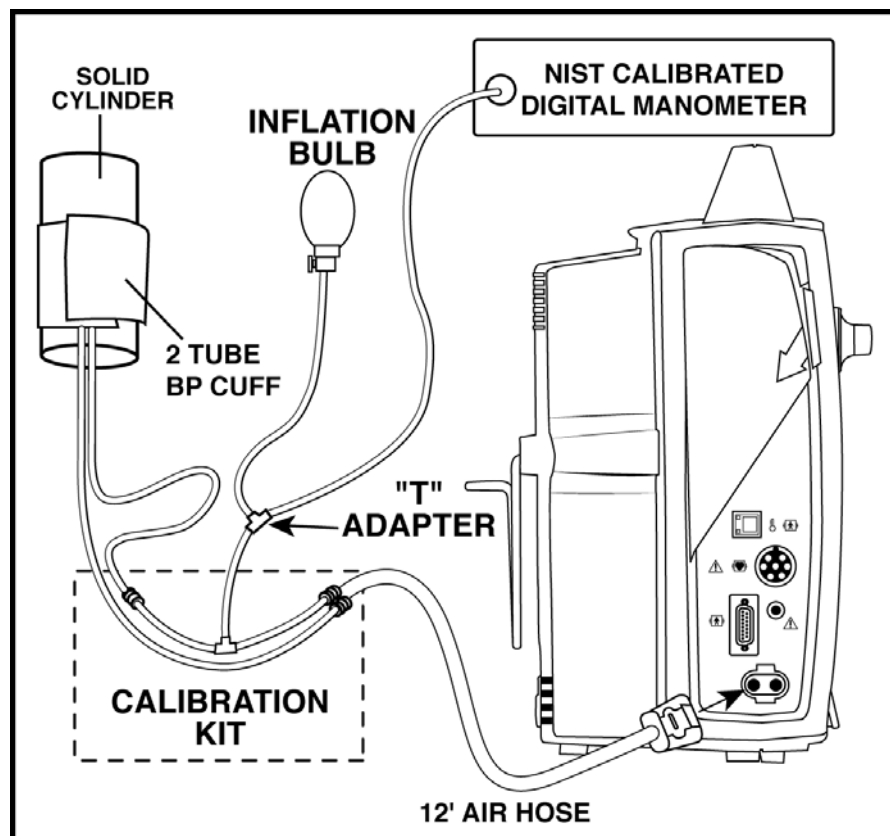

Figure 4-1. NIBP Test Setup
1. Using the calibration kit (part number 320246), an adult cuff and air hose, and a manometer, set up the equipment as shown in Figure 4-1. Connect the hose to the NIBP Parameter. Make sure that all of the fittings are tight, and that the valve on the manual inflation bulb is fully closed.
1. Using the calibration kit (part number 320246), an adult cuff and air hose, and a manometer, set up the equipment as shown in Figure 4-1. Connect the hose to the NIBP Parameter. Make sure all fittings are tight, and that the inflation bulb valve is closed tightly.
1. Using the calibration kit (part number 320-246), an adult cuff and air hose, and a manometer, set up the equipment as shown in Figure 4-1. Connect the hose to the NIBP Parameter. Make sure all fittings are tight, and that valve on inflation bulb is closed tightly.